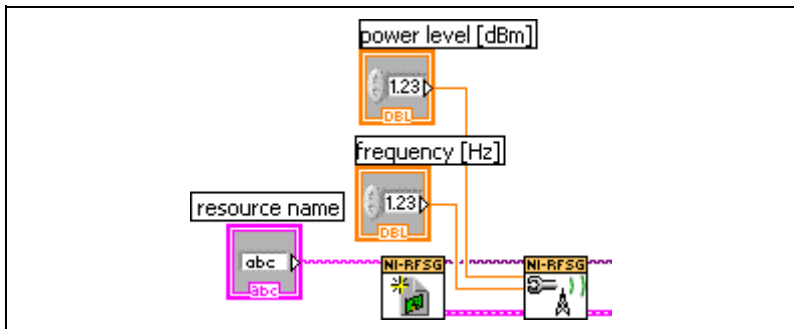

Figure 1-28. Frequency and Power Level Controls on the Block Diagram
9. Right-click each terminal and select **Create»Control** from the shortcut menu to create frequency and power controls as shown in Figure 1-28.